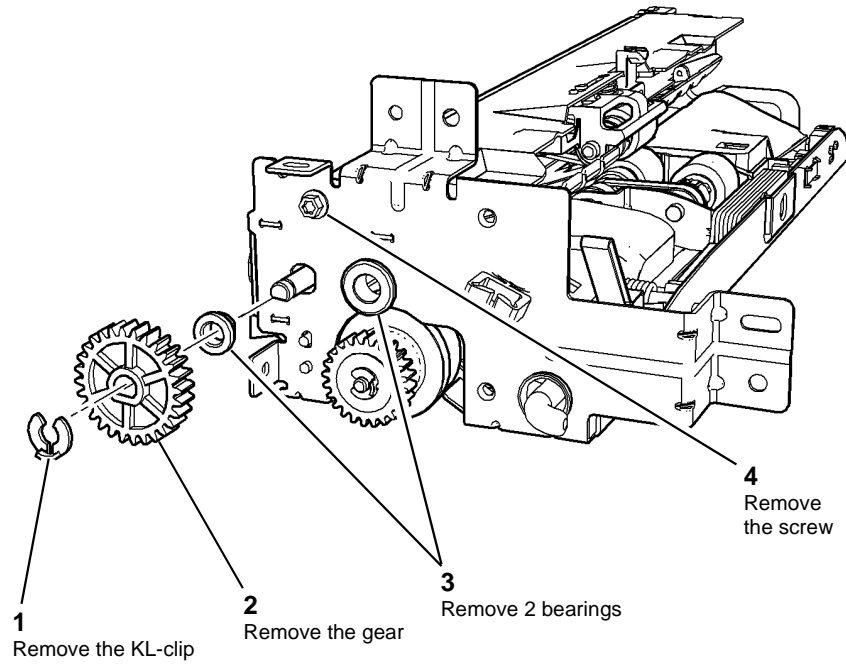

Figure 2 Rear fixings
4. Release the rear fixings, Figure 2.